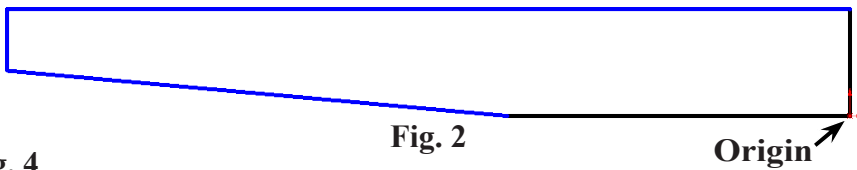

Fig. 2
Step 3. Click **Line** (L) on the Sketch toolbar.
Step 4. Sketch lines starting from the Origin, **Fig. 2**.
Step 5. Click **Circle** (S) on the Sketch toolbar.